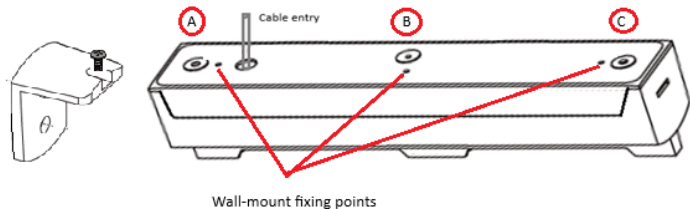

Fig. 4
- This accessory can be used to install the luminaire on a wall on either side (A and C) of the luminaire or centrally (B) (see Fig. 4)
- Once install location confirmed, fit bracket on wall using wall plugs and screws supplied (see fig4)
- Feed cable(s) through back plate (see Fig. 4)